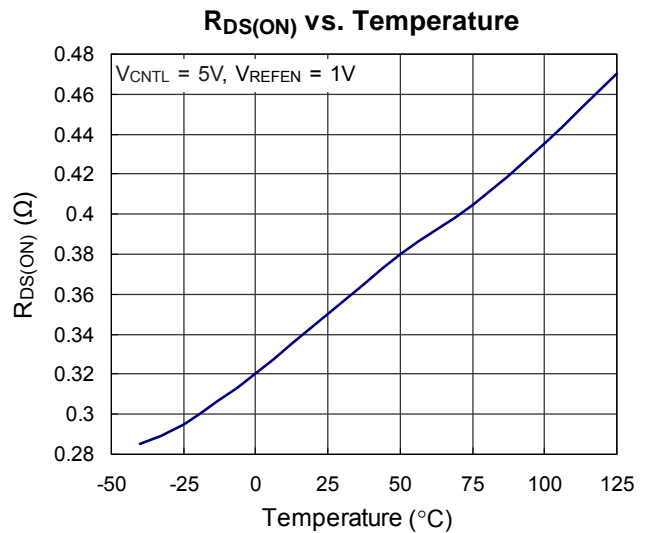

Figure 7
As other linear regulator, dropout voltage and thermal issue should be specially considered. Figure 7 shows the RDS(ON) over temperature of RT9199. The minimum dropout voltage could be obtained by the product of RDS(ON) and output current. For thermal consideration, please refer to the relative sections.